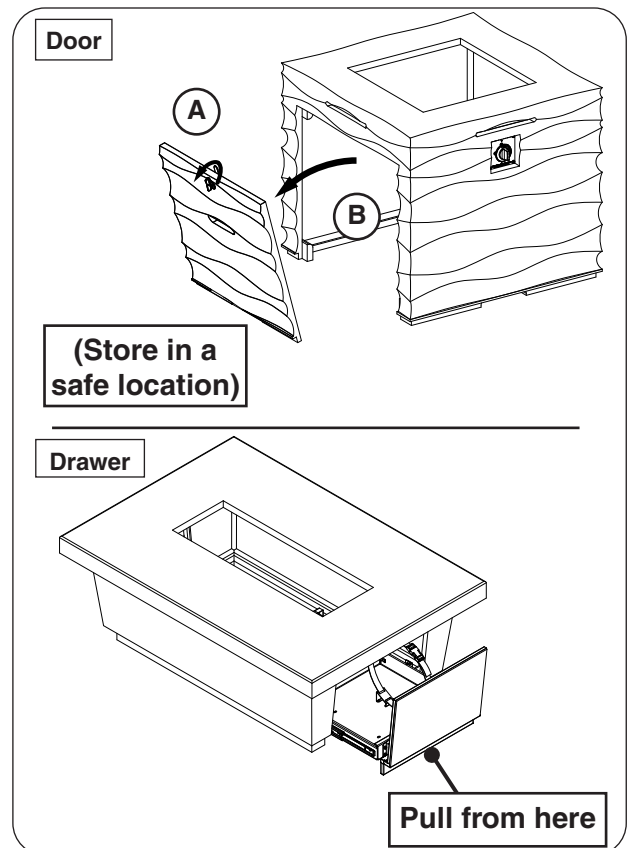

Fig. 27-2 Remove or open door/drawer (if applicable)
2. If equipped, remove/open the storage door/drawer. See below and Fig. 27-2.